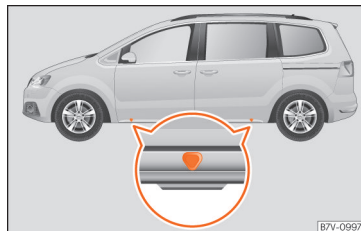

Fig. 47 Jack position points.
- Find the support point on the strut (sunken area) closest to the wheel to be changed » **Fig. 47.**